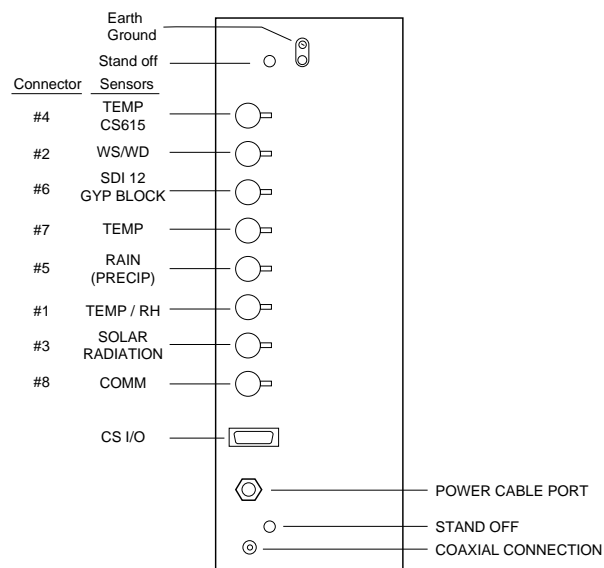

FIGURE 3.2-1. Position of Sensor Bulkhead Connectors
- 2) Remove the protective connector cover from the back of the ET Enclosure by removing the two Phillips head screws. Sensors connect to one of seven labeled bulkhead connectors as shown in Figure 3.2-1.